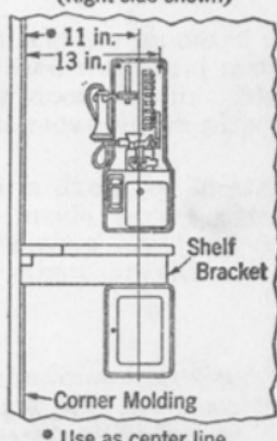

Fig. 6.
3.10 At Coin Collector Installations: Locate subscriber sets in telephone booths equipped with coin collectors as indicated in Fig. 6 or Fig. 7 depending on the type of booth.